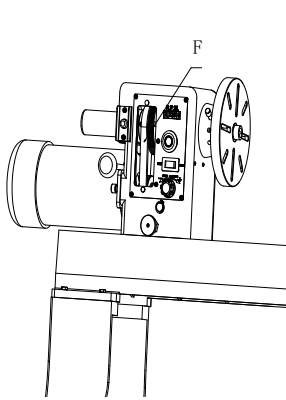
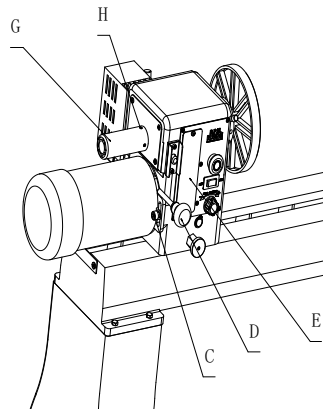

FIG. 21
FIG. 22
2. Loosen the locking screw (C, Fig. 22), and lift up on the tensioning handle (D, Fig. 22) to remove tension from the poly v-belt.
3. Open door (E, Fig. 22), and remove the belt (F, Fig. 21) from the lower pulley.